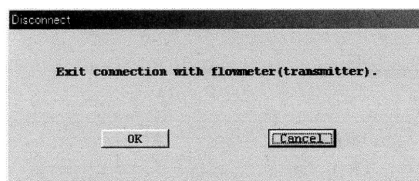

Fig.13
- ② At the message box as shown in Fig. 13, click on "OK." This brings the connection between the flowmeter and LinkTop to come to an end.
- ③ Clicking on "Cancel" abandons the process of terminating the connection.